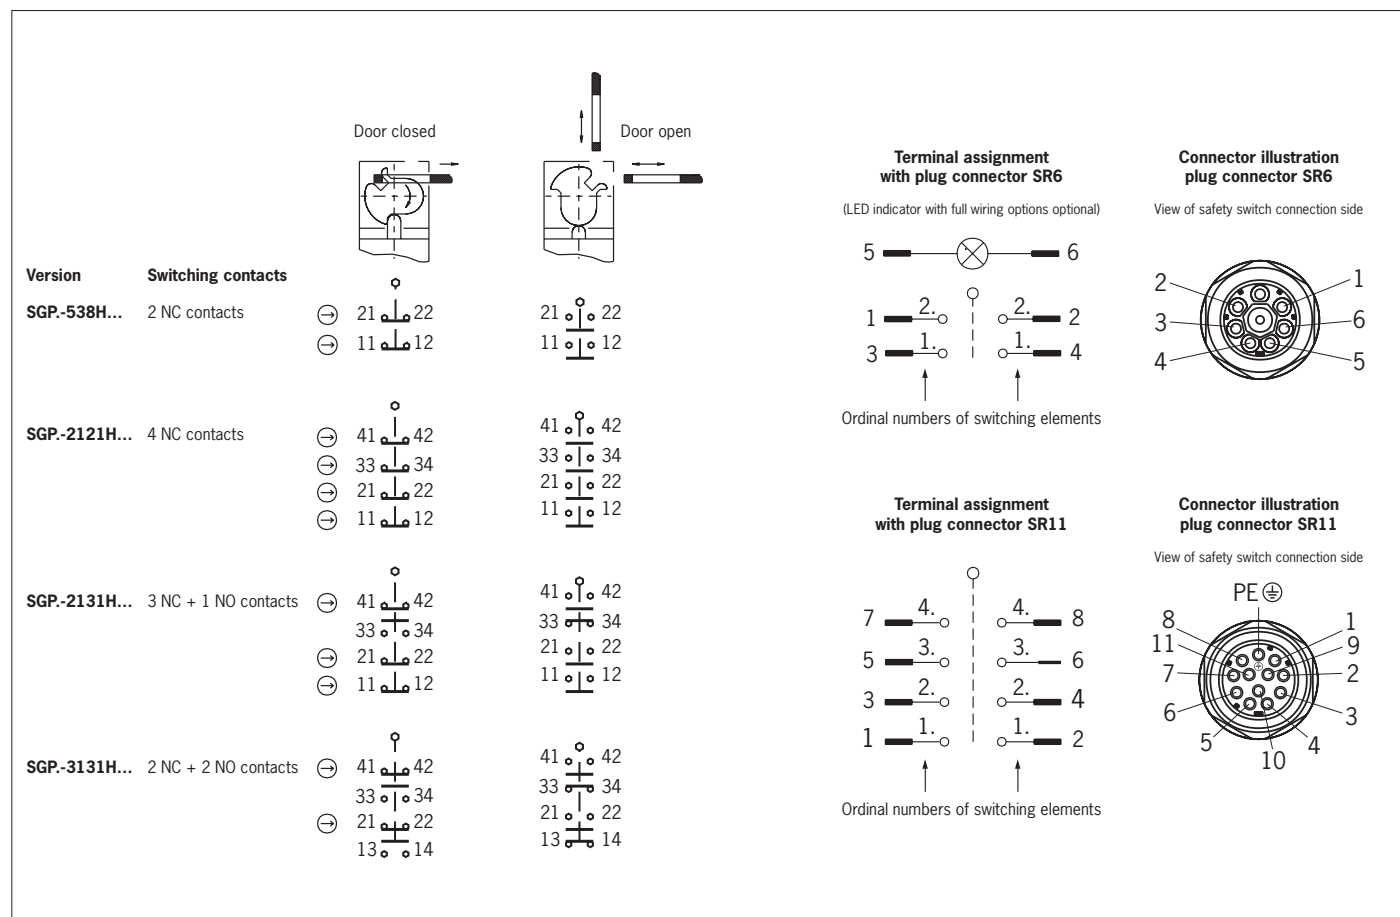

Fig. 2: Switching elements and switching functions
3. Connect and tighten terminals with 0.5 Nm (for terminal assignment, see Fig. 2).